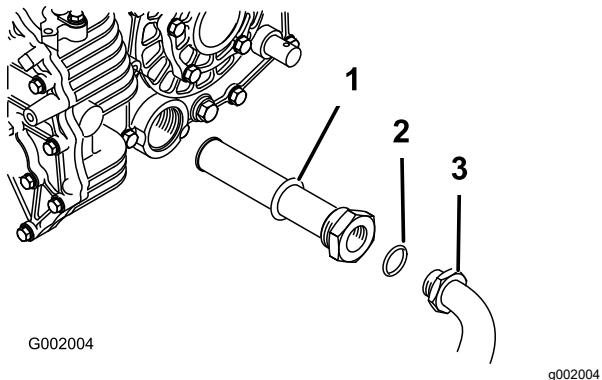

Figure 51
5. Remove the hydraulic hose and 90° fitting (Figure 51).